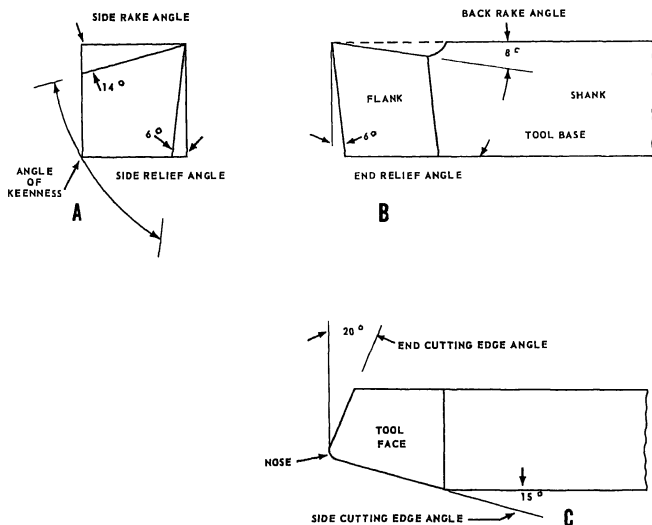
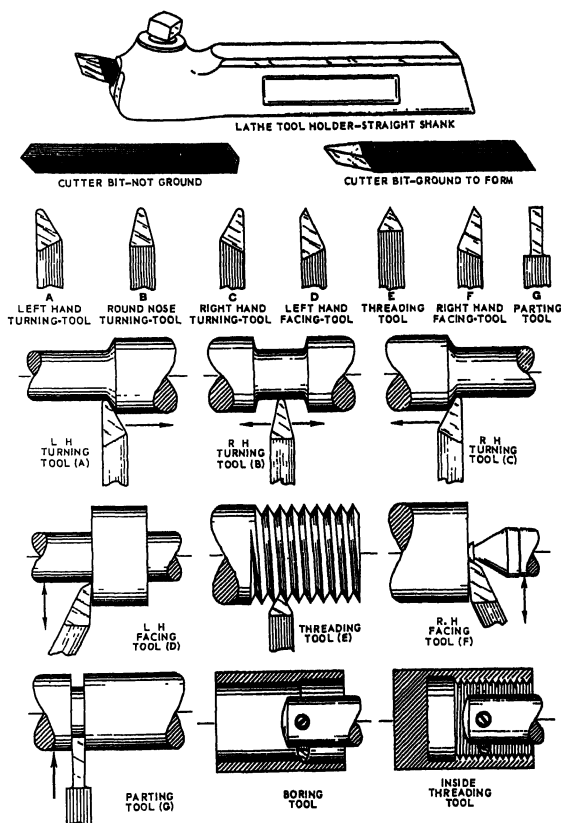

Figure 9-29.—Applications of tool terminology.
Figure 9-30.—Lathe tools and their applications.
Figure 9-29 shows the application of angles and surfaces used in discussing single-edge or single-point cutting tools.
Side rake (fig. 9-29, view A) is the angle at which the face of the tool is ground away with respect to the top surface of the tool bit. The amount of side rake influences to some extent the size of the angle of keenness. It causes the chip to "flow" to the side of the tool and away from the cutting edge. For cutting aluminum, increasing the side rake angle will produce better results. Steel is easier to machine when the side rake is decreased.
The side relief (fig. 9-29, view A) is the angle at which the side or flank of the tool is ground so that the cutting edge leads the flank surface during cutting. The total of the side rake and side relief subtracted from  $90^\circ$  equals the angle of keenness. A tool with proper side clearance concentrates the side thrust on the cutting edge rather than on the flank of the tool.
The end relief (fig. 9-29, view B) is the angle at which the end surface of the tool is ground so that the end face edge of the tools clears the work being turned.
The back rake (fig. 9-29, view B) is the angle at which the face is ground with respect to a plane
The side cutting edge angle (fig. 9-29, view C) is ground to prevent the point of the tool from digging into the workpiece, which would probably result in pulling the tool into the workpiece deeper than intended. The end cutting edge angle is ground so that the end face edge of the tool does not drag over the machined surface.
Note the radius on the tool nose in figure 9-29, view C. For rough turning, a radius of  $1/64$  inch is effective for most optical shop applications, a
Figure 9-30 shows a variety of commonly used lathe tool bits and their applications. The tool design preferred for most turning operations, however, is one similar to that shown in figure 9-29.
**LEFT-HAND TURNING TOOL.**—This tool is used for machining work when fed from left to right, as indicated in view A, figure 9-30. The cutting edge is on the right side of the tool, and the top of the tool slopes down away from the cutting edge.
**ROUND-NOSED TURNING TOOL.**—This tool is for general all-round machine work and is used for taking light roughing cuts and finishing cuts. Usually, the top of the cutter bit is ground on a side rake so that the tool may be fed from right to left. Sometimes this cutter bit is ground on top so that the tool may be fed in either direction (view B, fig. 9-30).
**RIGHT-HAND TURNING TOOL.**—This is the opposite of the left-hand turning tool and is designed to cut when fed from right to left (view C, fig. 9-30). The cutting edge is on the left side.
**LEFT-HAND FACING TOOL.**—This tool is intended for facing on the left-hand side of the work, as shown in view D, figure 9-30. The direction of feed is away from the lathe center. The cutting edge is on the right-hand side of the tool, and the point of the tool is sharp to permit machining a square corner.
**RIGHT-HAND FACING TOOL.**—This tool is just the opposite of the left-hand facing tool and is intended for facing the right end of the work and for machining the right side of the shoulder. (See view F, fig. 9-30.)
**THREADING TOOL.**—The point of the threading tool is ground to a 60-degree included angle for machining V-form screw threads (view E, fig. 9-30). Usually, the top of the tool is ground flat and there is clearance on both sides of the tool so that it will cut on both sides.
**INTERNAL-THREADING TOOL.**—The internal-threading (INSIDE-THREADING) tool is the same as the threading tool in view E, figure 9-30, except that it is usually much smaller. Boring and internal-threading tools may require larger relief angles when used in small diameter holes.
The principal cutting edge of this tool is on the front. (See view G, fig. 9-30.) Both sides of the tool must have sufficient clearance to prevent binding and should be ground slightly narrower at the back than at the cutting edge. This tool is convenient for machining necks, grooves, and squaring corners and for cutting off.